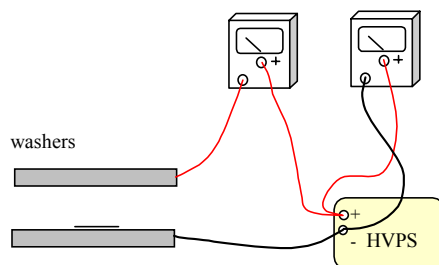
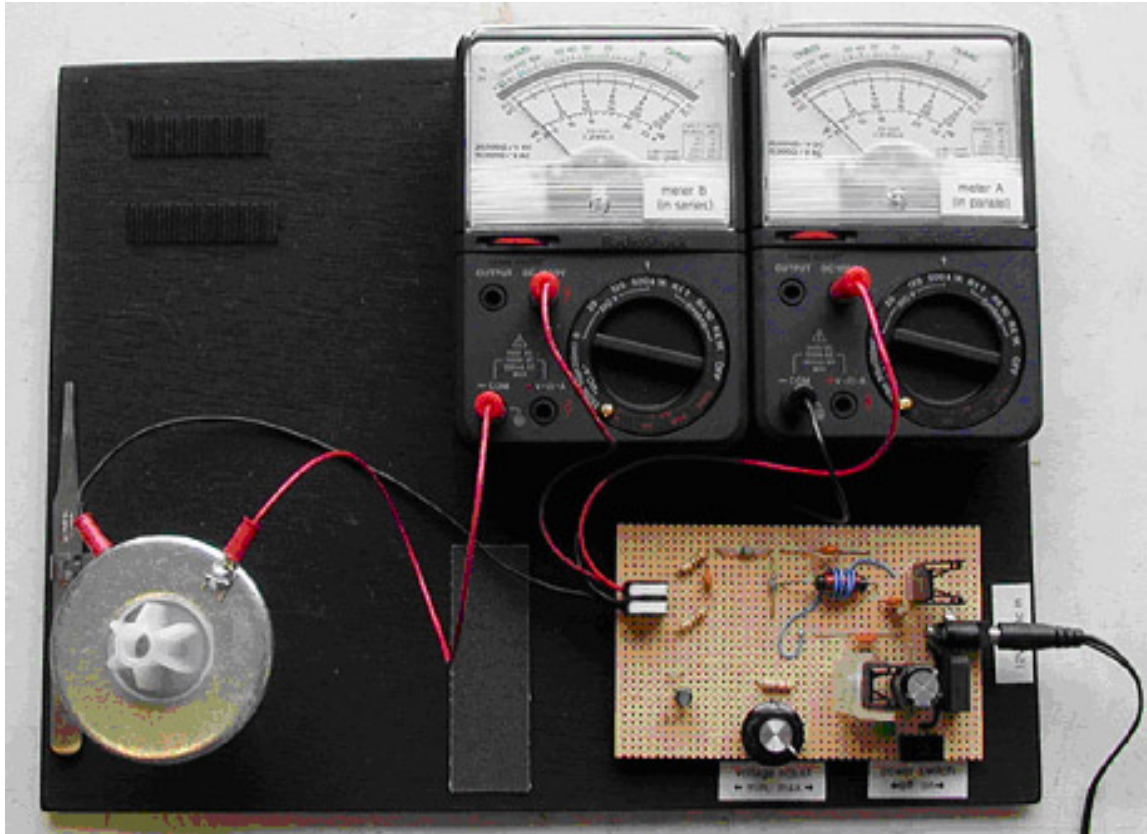

Figure 4 Experimental setup: Meter B is on the left, meter A is on the right.
Figure 5 Experimental setup
2. The circuit should be set up as shown schematically in Figure 4 and in the photograph shown in Figure 5. The lower washer is connected to the negative side of the HVPS, and the upper washer to the positive side, connected through one multimeter set on the +DC 1000 V scale. This meter is on the left in both Figures 4 and 5, and is labeled as meter “B” in Figure 5. A second meter, on the right in both Figures 4 and 5 and labeled as meter “A” in Figure 5, is used to read the HVPS output by connecting the meter leads across the output of the HVPS. (Meter A is in “parallel” with the gap and meter B is in “series.”)